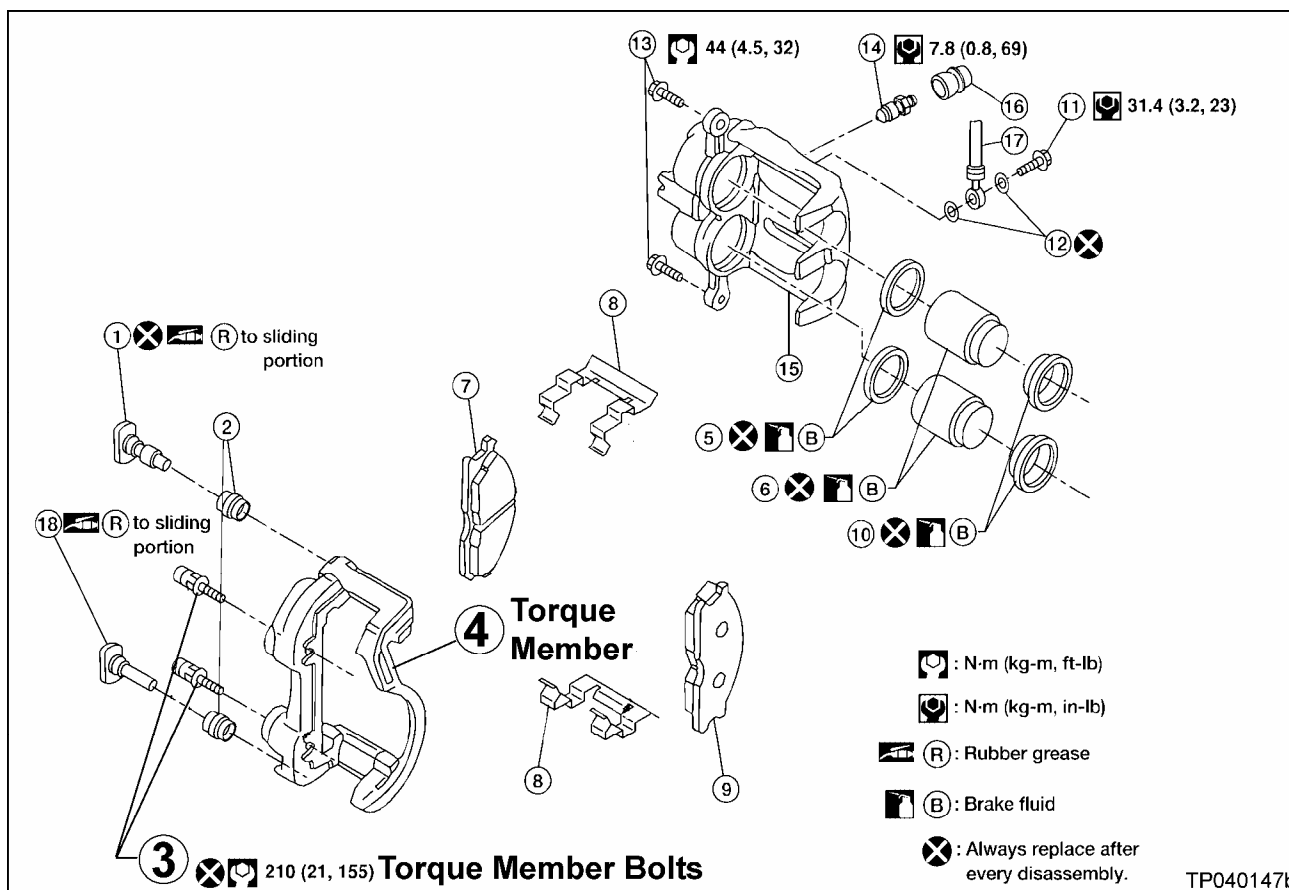

Figure 5
6. Install the new Torque Members with new Torque Member Bolts (see Figure 5).